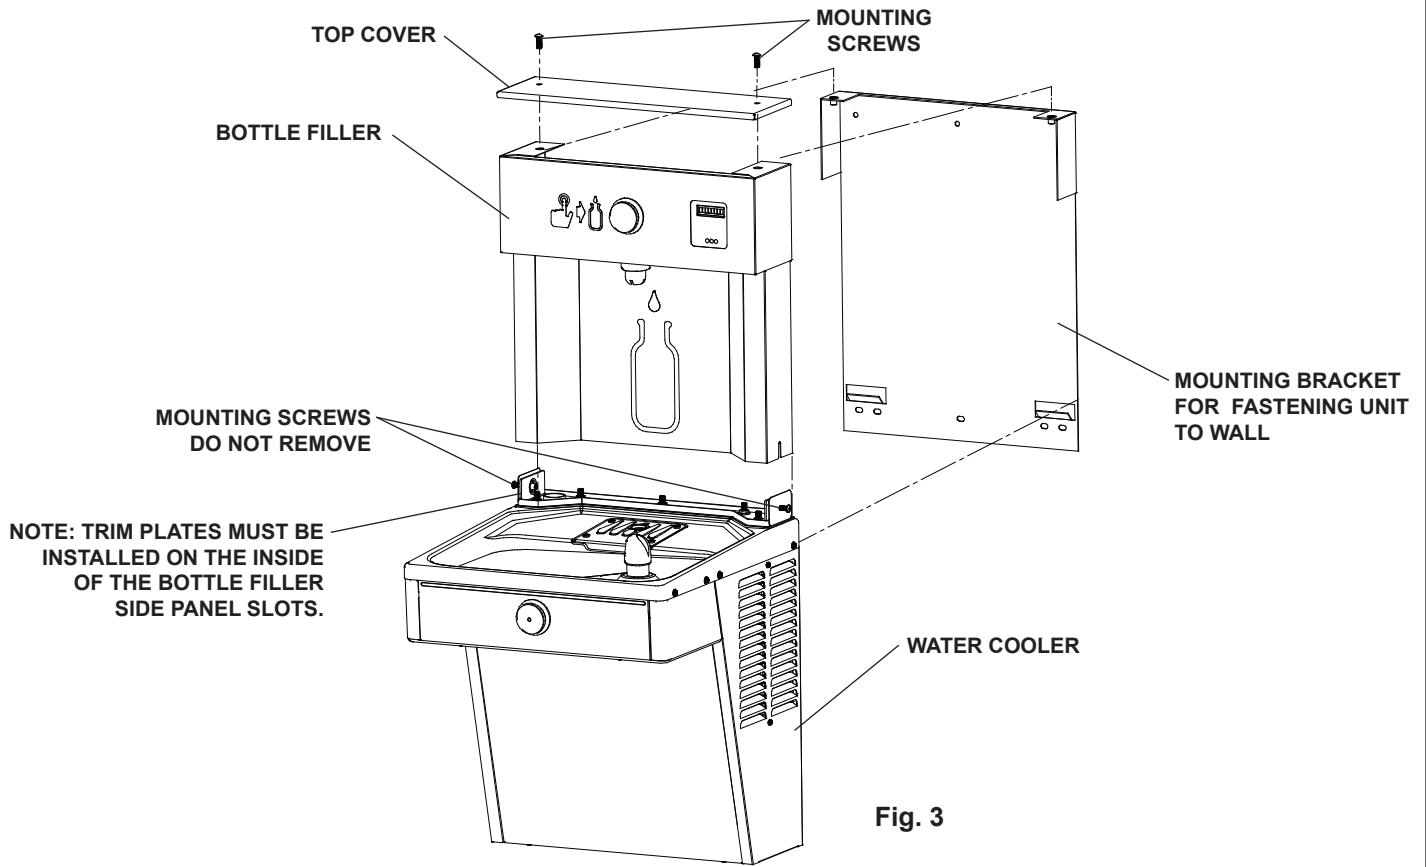

Fig. 3
- 4) **With the power cord and waterline** through the hole on top of water cooler, place Bottle Filler onto mounting bracket on basin. (See Fig. 3). Make sure Bottle Filler is installed properly on the basin gasket.
- 5) **Once Bottle Filler** is installed on basin mounting bracket, tighten the two screws (supplied) one on each side of the Bottle Filler. Install Top Cover on Bottle Filler (See Fig. 3) with two mounting screws (supplied). Caution do not over tighten screws.